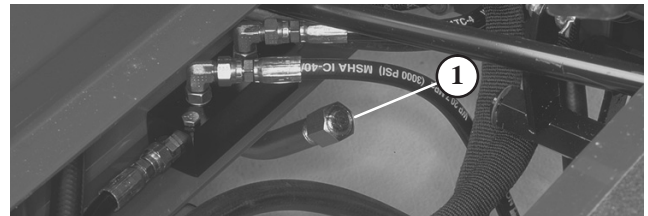

Figure 18
3. Unscrew dipstick cap from the transmission filler neck (Fig. 18) and wipe it with a clean rag. Screw dipstick into filler neck. Remove the dipstick and check level of oil. If level is not within 1/2 inch from the groove in the dipstick, add enough oil to raise level to groove mark. **Do not overfill** by more than 1/4 inch above groove.